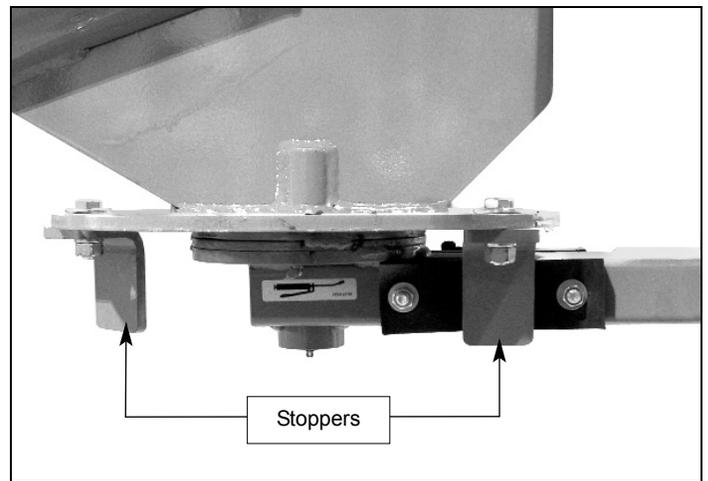
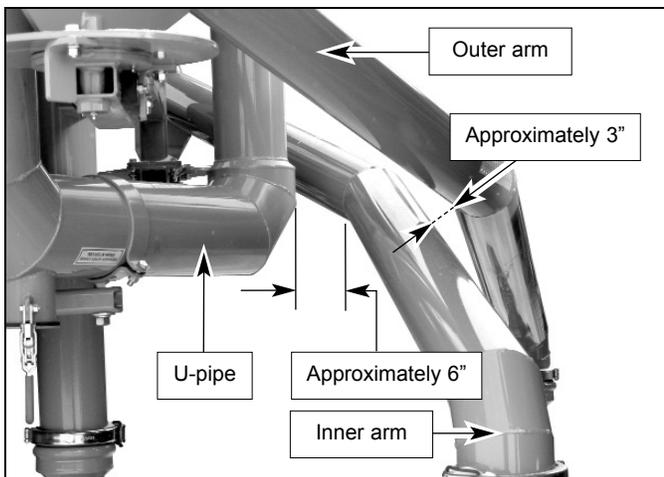

Fig. 22
Fig. 23
4.2. Set the stoppers that restrain the outward movement of the arms - *fig. 22*.
4.3. Fold the side arms in so the distance between the inner arm and the U-pipe is approximately 6" - *fig. 23 and 24*. Set the stopper that restrains the inward movement of the inner arm - *fig. 22*.
4.4. Open and fold in the side arms. When folded in, side arms must be approximately 3" from each other - *fig. 23 and 24*. Set the stopper that restrains the inward movement of the outer arm.